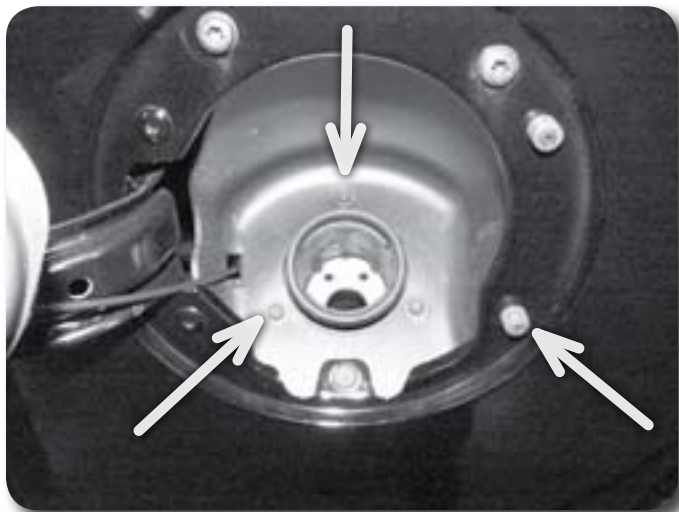

Figure 31
6. Disconnect the fuel filler neck from the body by removing the 3 mounting screws Figure 31. Save mounting screws.